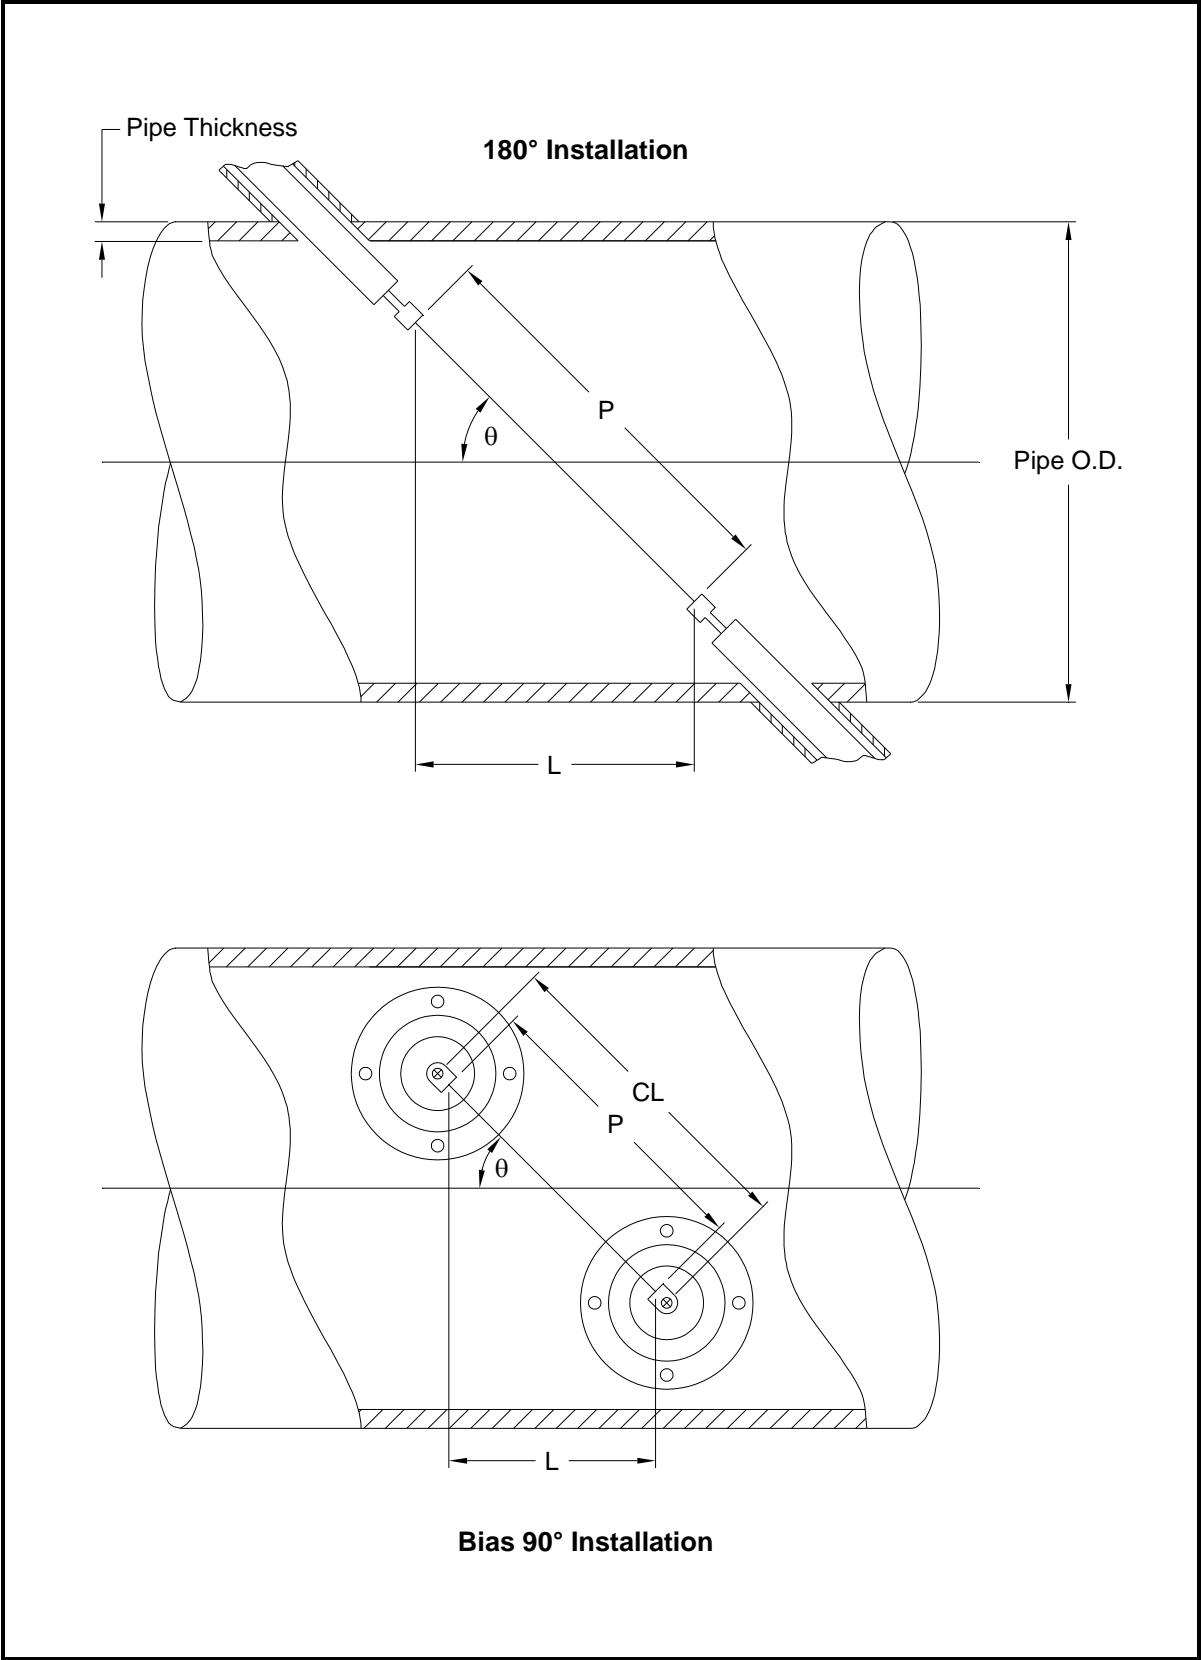

Figure 17: Top View of Transducer Installations
The accuracy of the programmed P and L values is critical to precise flow rate measurements. If GE supplies the flowcell for the system, the correct values will be included in the documentation supplied with the unit. For transducers installed on an existing pipe (see Figure 17 on page 60), P and L must be measured at the site. This appendix provides instructions for properly determining these dimensions.
Whenever possible, physically measure the face-to-face distance (P) and the axial distance (L) between the centers of the flat faces of the transducers. Refer to Figure 17 on page 60 for an illustration of the proper distances to measure in a typical installation.
With a Bias 90° transducer installation, it sometimes happens that the only known parameters are the transducer angle (θ) and the centerline distance between the transducer bodies (CL). In these cases, it is still possible to calculate both P and L by combining the first equation above with the second equation below (see Figure 17 on page 60):